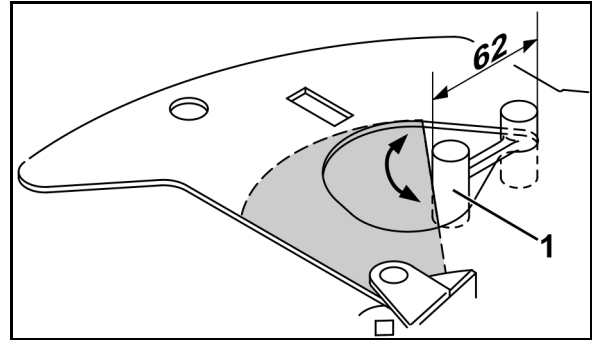

Fig. 8
2. Insert one end of the adjustment gauge (Fig. 8/1) into the lug of the outlet opening.